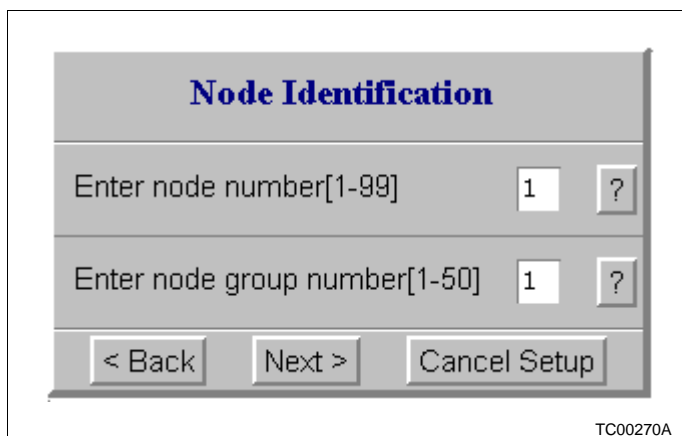

Figure 4-1. Node Identification Window
11. The Node Identification window (Figure 4-1) appears. Enter an node number (1-99), which must be unique on the network. (The PWC90 is represented as an PWC device on the network.) Select the group number (0-50). There is a maximum of 10 nodes per group. Click on *Next* to continue or *Cancel* to abort the installation.